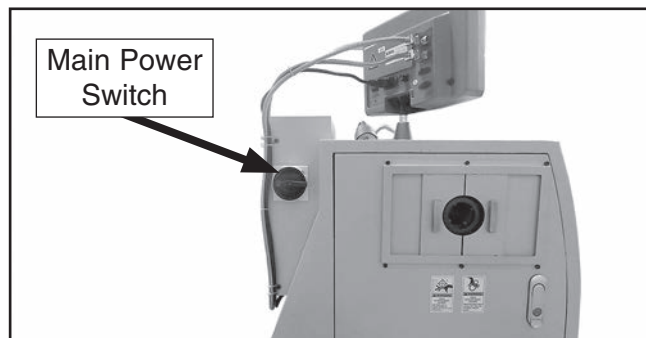

Figure 21. Location of the main power switch.
1. Make sure the main power switch (see **Figure 21**) is turned OFF.